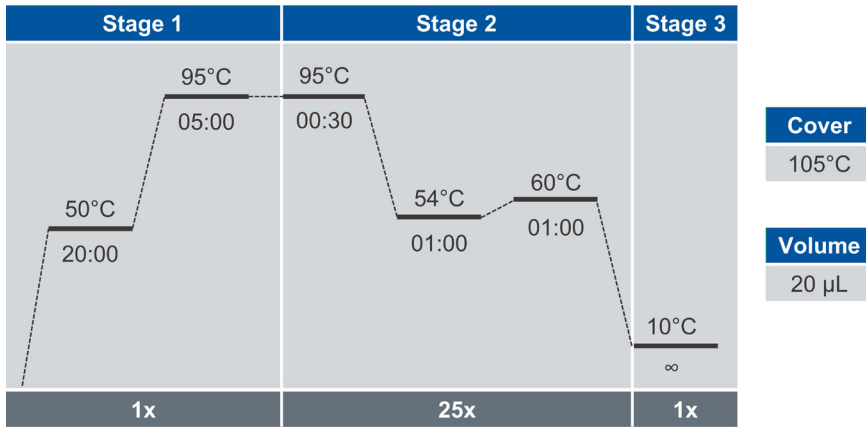

Figure 32. Olink PCR1 program
1. Start the PCR program *Olink PCR1* on the two ProFlex™ PCR instruments (*Figure 32*). Pause when the PCR block temperature reaches 50 °C.